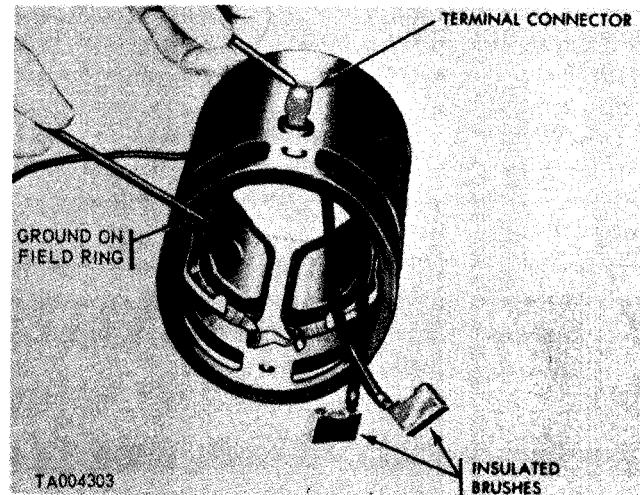

Figure 3-25. Testing field coils for grounds.
(1) Check field coils for insulation breakdown with an ohmmeter. Attach one probe of ohmmeter to field coil terminal and the other probe to field ring (fig. 3-25). The minimum reading should not be less than one megohm. If field coils are damaged, replace starter.
(2) Inspect field frame for cracks and burrs. Replace starter if cracked.